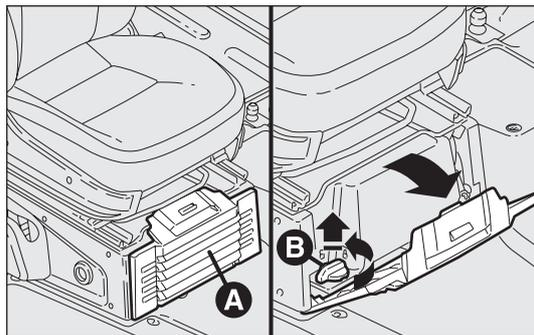
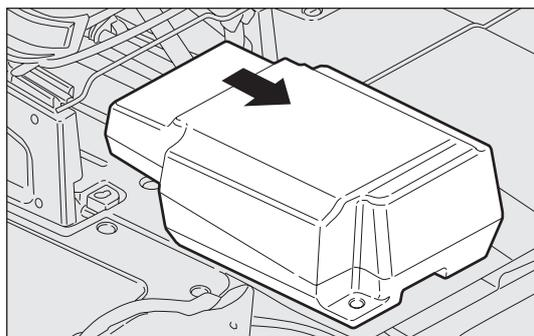

fig. 212
fig. 213
- ❑ Open the flap A and remove it as illustrated in fig. 212;
- ❑ turn the locking knob B anticlockwise and remove it fig. 212 to allow the removal of the compartment fig. 213;